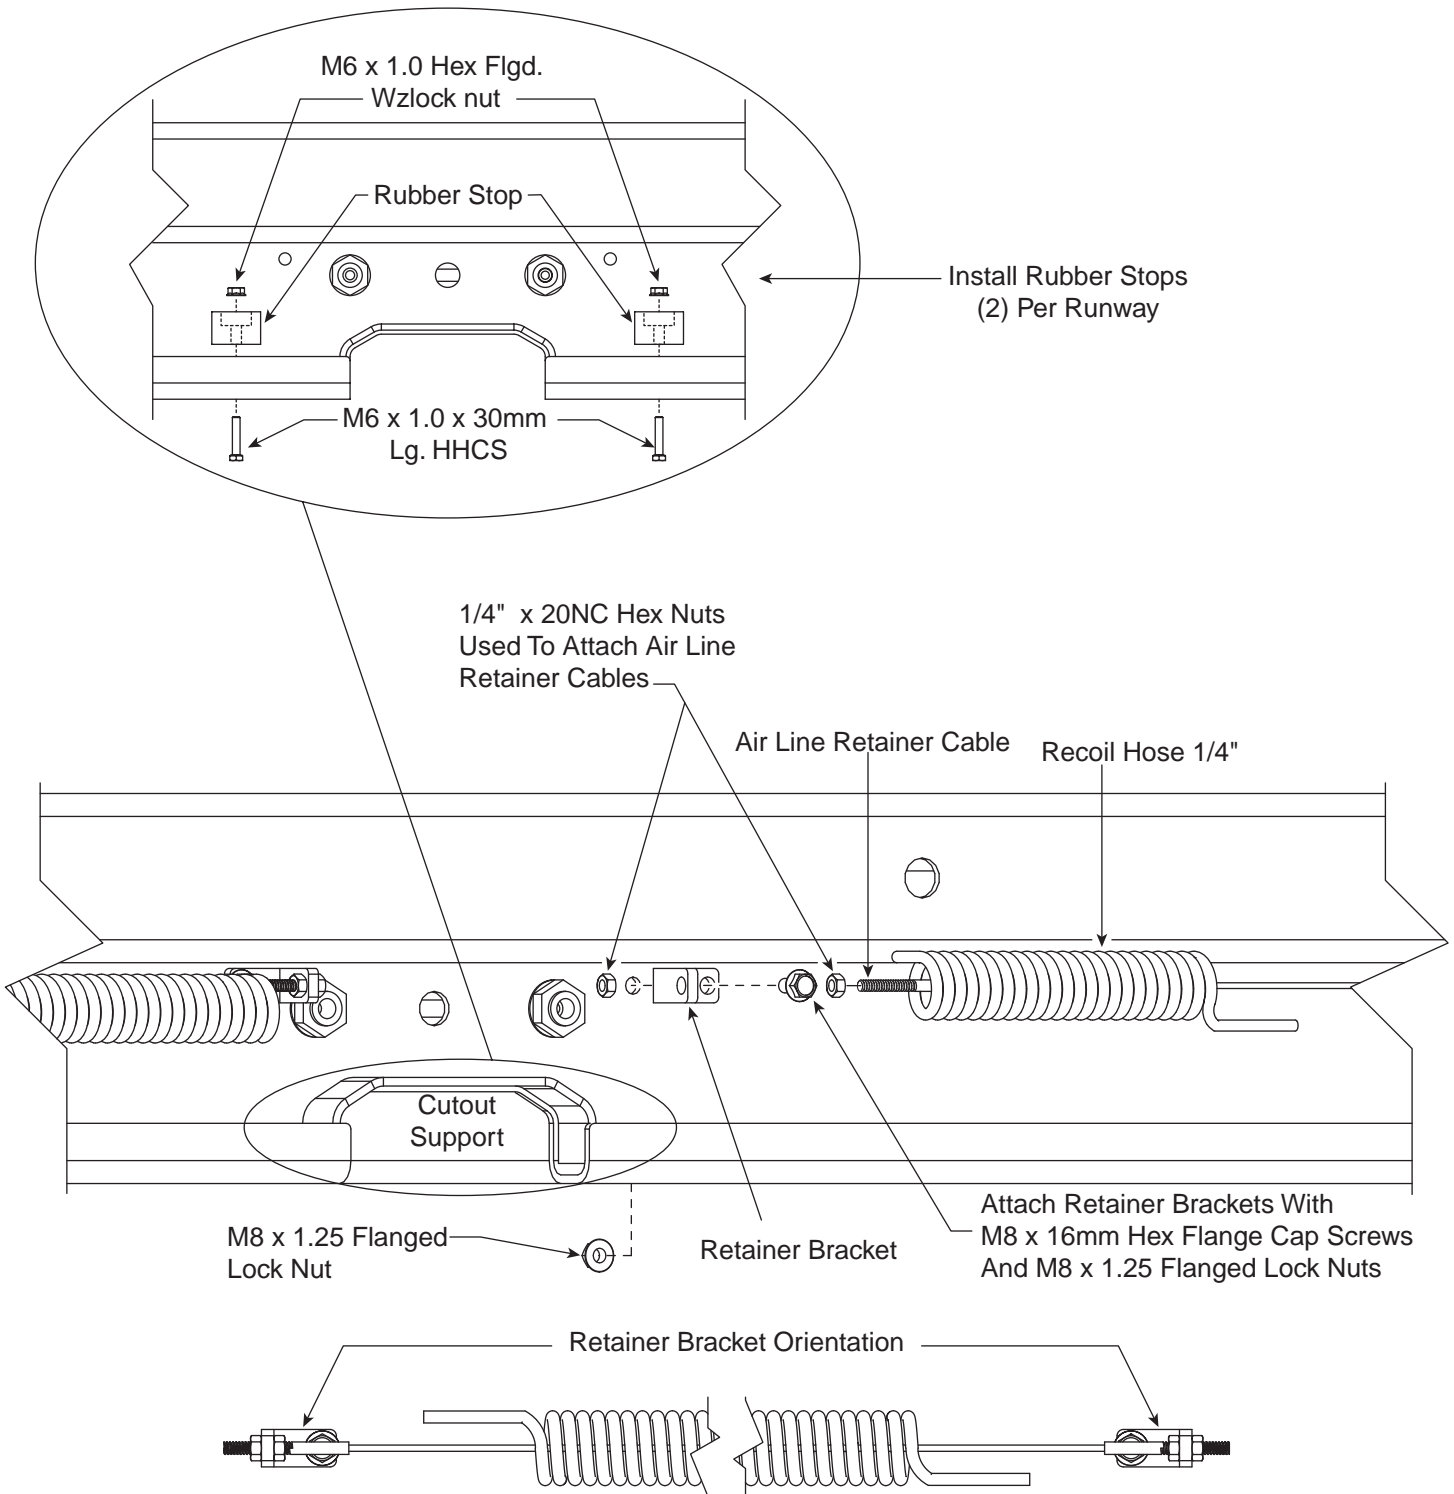

Fig. 31
C.) Install recoil hoses and air line retainer cables to runway with bulk heads (air fittings), Fig. 31 and 31a. Also see SC9i Pneumatic Circuit, Fig. 31b.